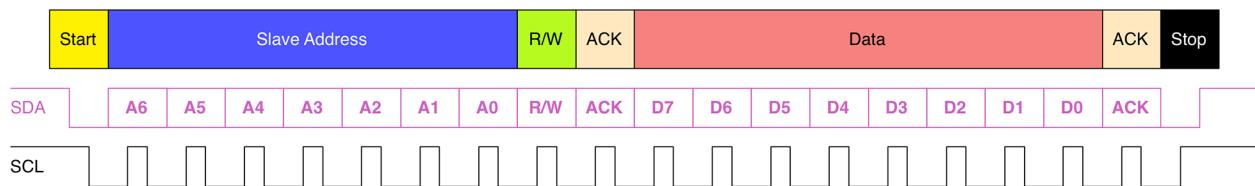

Figure 2: The structure of a base I2C message
All transactions begin with a START and are terminated by a STOP (see Figure 2). A HIGH to LOW transition on the SDA line while SCL is HIGH defines a START condition. A LOW to HIGH transition on the SDA line while SCL is HIGH defines a STOP condition.
Every word transmitted on the SDA line must be eight bits long, and this also includes the address frame as we will see in a while. The number of bytes that can be transmitted per transfer is unrestricted. Each byte must be followed by an *Acknowledge* (ACK) bit. Data is transferred with the *Most Significant Bit* (MSB) first (see Figure 2). If a slave cannot receive or transmit another complete byte of data until it has performed some other function, for example servicing an internal interrupt, it can hold the clock line SCL LOW to force the master into a wait state. Data transfer then continues when the slave is ready for another byte of data and releases clock line SCL.
The address frame is always first in any new communication sequence. For a 7-bit address, the address is clocked out most significant bit (MSB) first, followed by a R/W bit indicating whether this is a read (1) or write (0) operation (see Figure 2).